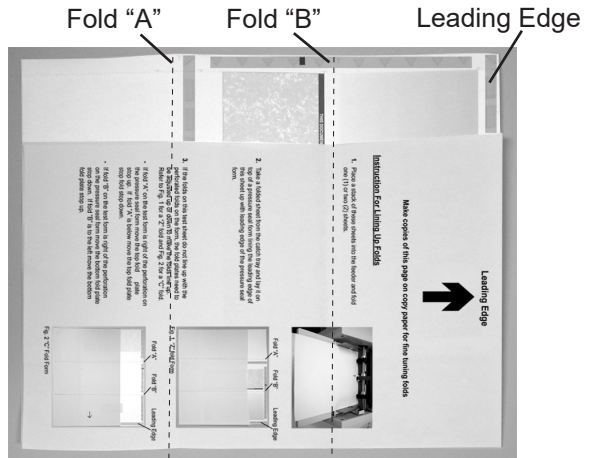
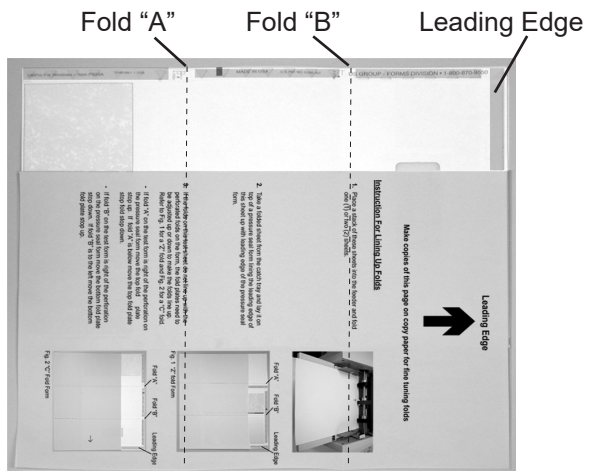

Fig. 44 "Z" fold Form
Fig. 45 "C" Fold Form
3. If the folds on this test sheet do not line up with the perforated folds on the form, the fold plates need to be adjusted up or down to make the folds line up. Refer to Fig. 44 for a "Z" fold and Fig. 45 for a "C" fold.